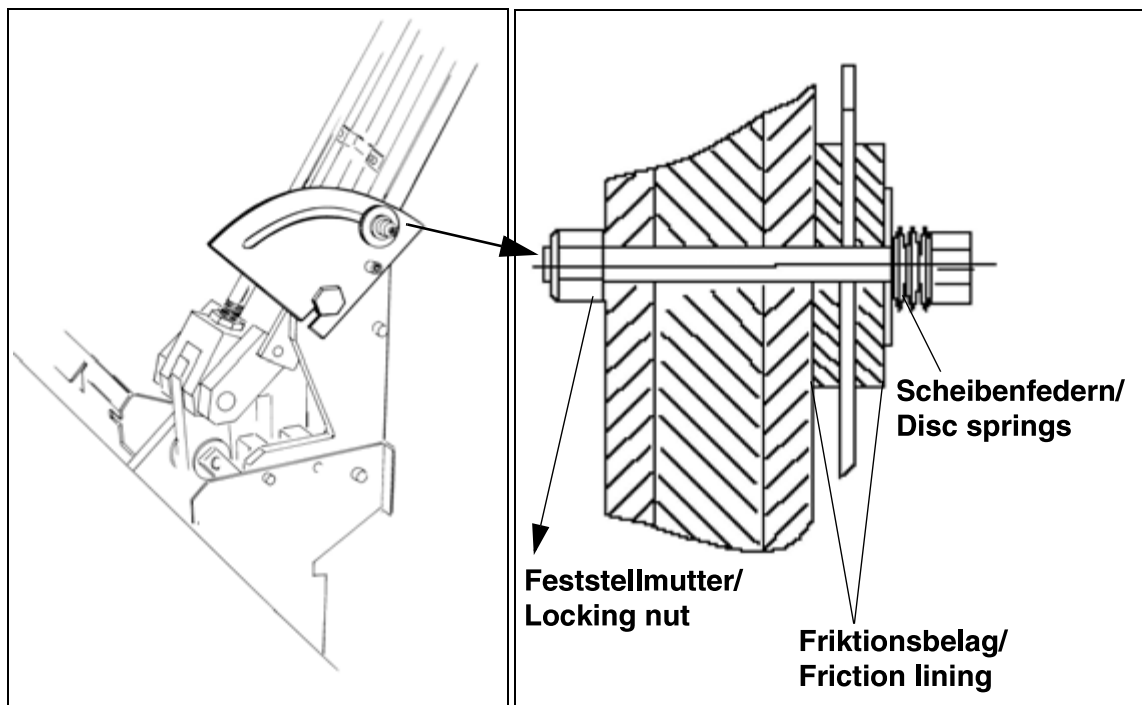

Fig. 63: *lo\_arm\_stability\_1*
- Reattach the screw and spring washers (Fig. 63 / p. 72). Secure screw with the locking nut.